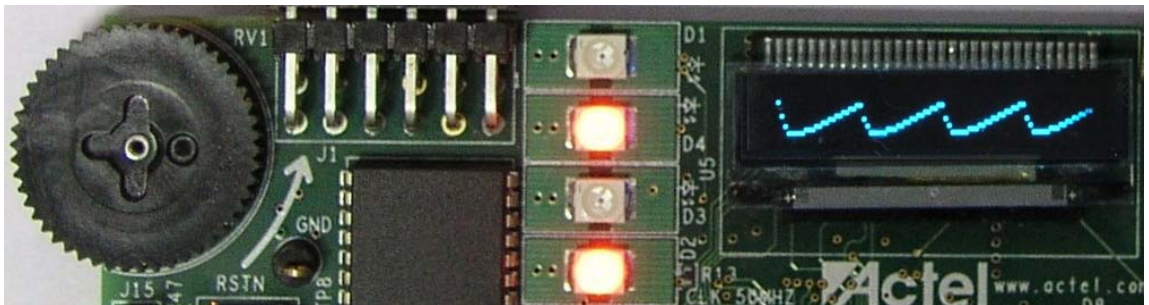

Figure 2-30 · Sawtooth Waveform
- Click **Sawtooth Wave** and repeat step 5 to see the sawtooth waveform on the OLED (Figure 2-30).